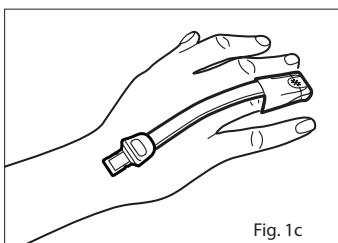

Fig. 1c
- Refer to Fig. 1c. Fold the sensor over the finger with the emitter window (*) positioned over the fingernail. Secure the wings down, one at a time, around the finger.